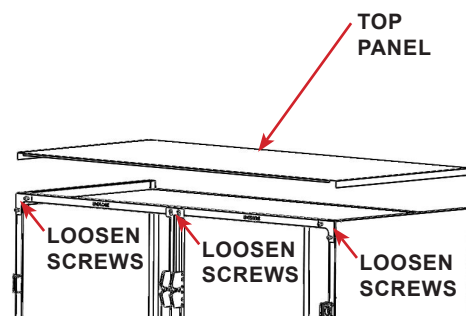

FIGURE 2.60 - Loosen Hardware
STEP 13: The trim and cage hardware should be loose, but not removed, from the previous end panel installation procedures. If not, loosen the trim and hardware screws, do NOT remove. See FIGURE 2.60